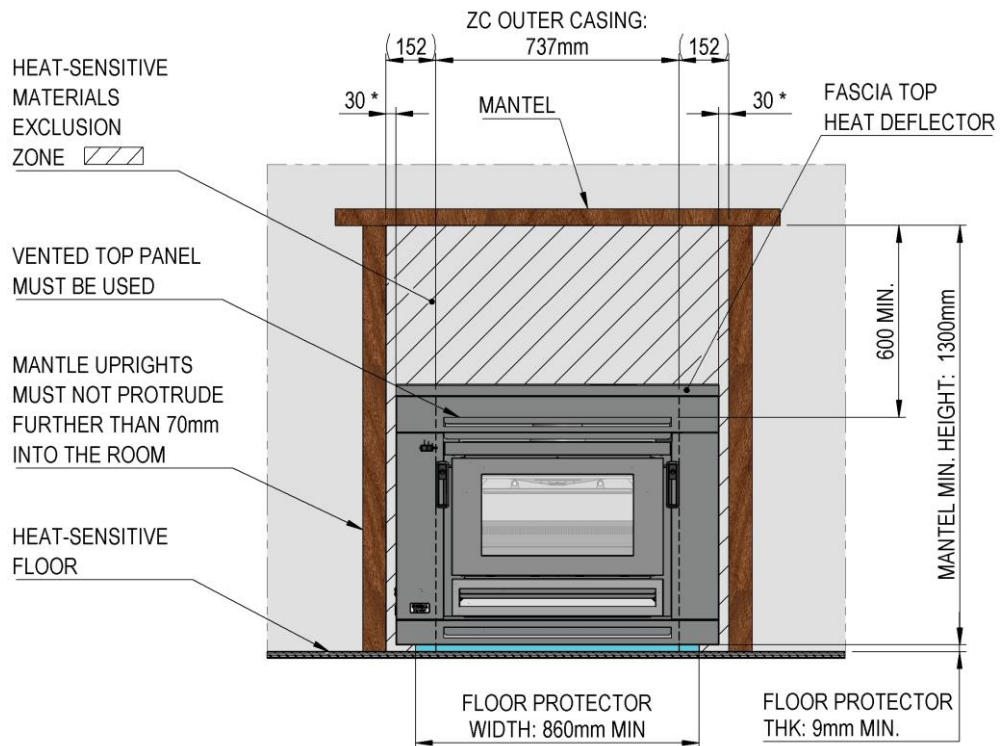

Fig. 5
- E1.** Non-combustible front cladding **must be used**, to a minimum of 600mm above the top-most panel vent, and a minimum of 30mm either side of the fascia (152mm either side of the outer casing of the firebox (Zero Clearance Kit). (Fig. 5)